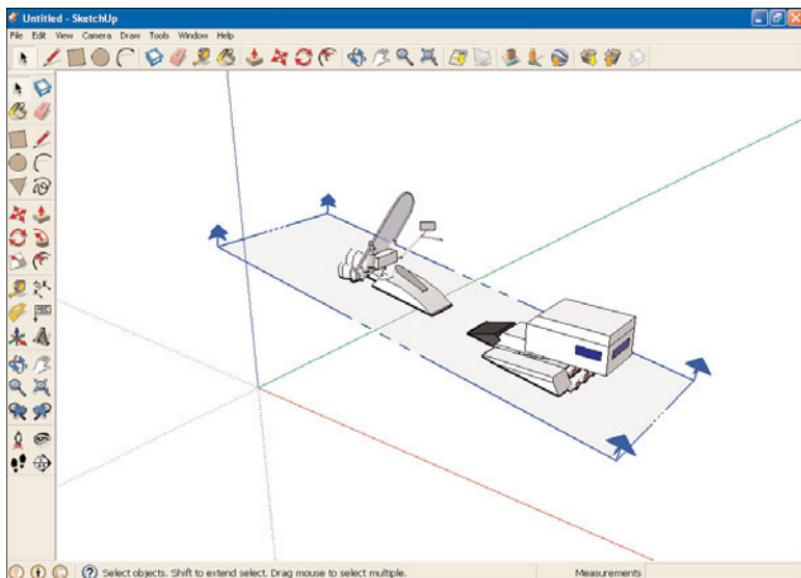

FIGURE 10.19 Reversing a cross section.
7. Select the **Reverse** item in the context menu. The part of the model that was cut away reappears, and the part that was visible disappears, as you can see in the example in Figure 10.19.